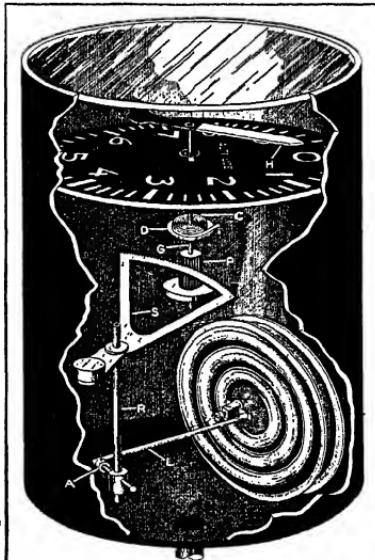
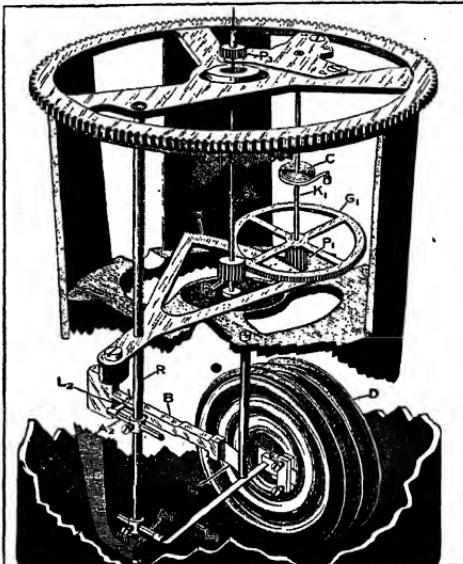
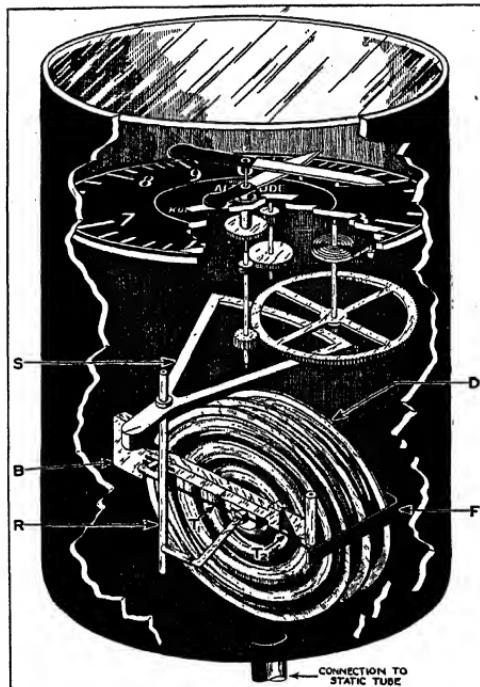

FIG. 1.—Kollsman simple altimeter.
FIG. 2.—Diaphragm and lower gearing of Kollsman sensitive altimeter.
FIG. 18.—Temperature compensation on sensitive altimeter.
The altimeter is a pressure gage with the dial marked in units of altitude. It gives the altitude of the plane in relation to the earth or to sea level. It works by differing pressures inside and outside an airtight diaphragm. When the pressure in the case outside the diaphragm decreases, as the plane climbs, the diaphragm expands. The expansion movement acts on a lever and, through multiplying mechanisms, indicates the change in altitude on a graduated dial. The mechanism of a Kollsman simple altimeter is shown in Fig. 1.
**Sensitive Altimeter.**—To secure a more sensitive instrument, the simple mechanism of Fig. 1 is replaced by more gearing which gives greatly increased movement to the hand for the same expansion of the diaphragm  $D$  (Fig. 2).
**Disassembly of Sensitive Altimeters.**—The sensitive altimeter shown in Fig. 2 does not have full-range compensation. The temperature compensation unit is fixed to the diaphragm unit by two screws, which should not be touched. Full-range compensation is shown in Fig. 18. Here the temperature compensation unit is in the form of a fork *F* around the diaphragm unit. It connects to the diaphragm by pins *T*1 and *T*2. No parts of the temperature compensation unit should be touched or changed in any way.